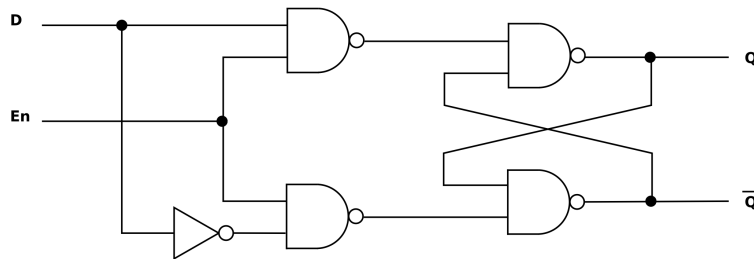

Figure 3: D-latch Gate-level Schematic
latch, as seen in Figure 3. The function table for the D-latch can be found in Table 2. The behavior of the D-latch is simple. When En is high, the input, D , is forwarded to the output, Q (i.e. the input is transparent); however when En is low, the output simply holds the last value of Q .
2. Simulate the D-latch in Figure 3 using Verilog.